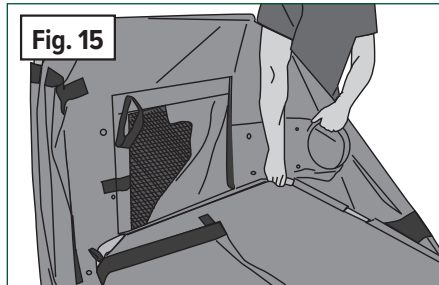

Fig. 15
4. **(Fig. 15)** ***Pull the bag collar out of the way and push the aluminum side tube all the way down.*** Push on both ends of the side tube until the first side lies completely flat on the frame.